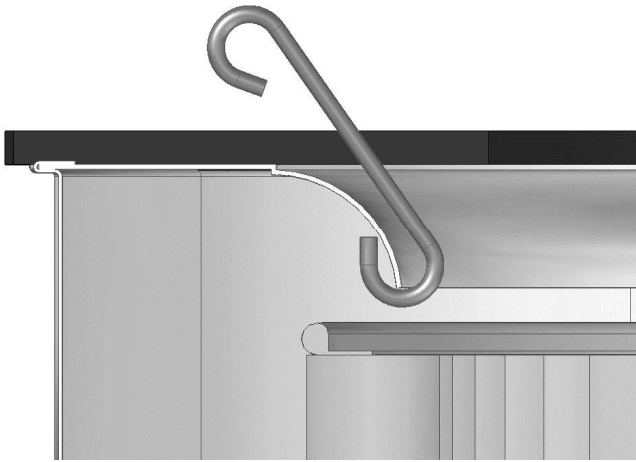

Figure 5 - Hook detail
- Hook is to hook onto blower housing as shown in Figure 5 below.